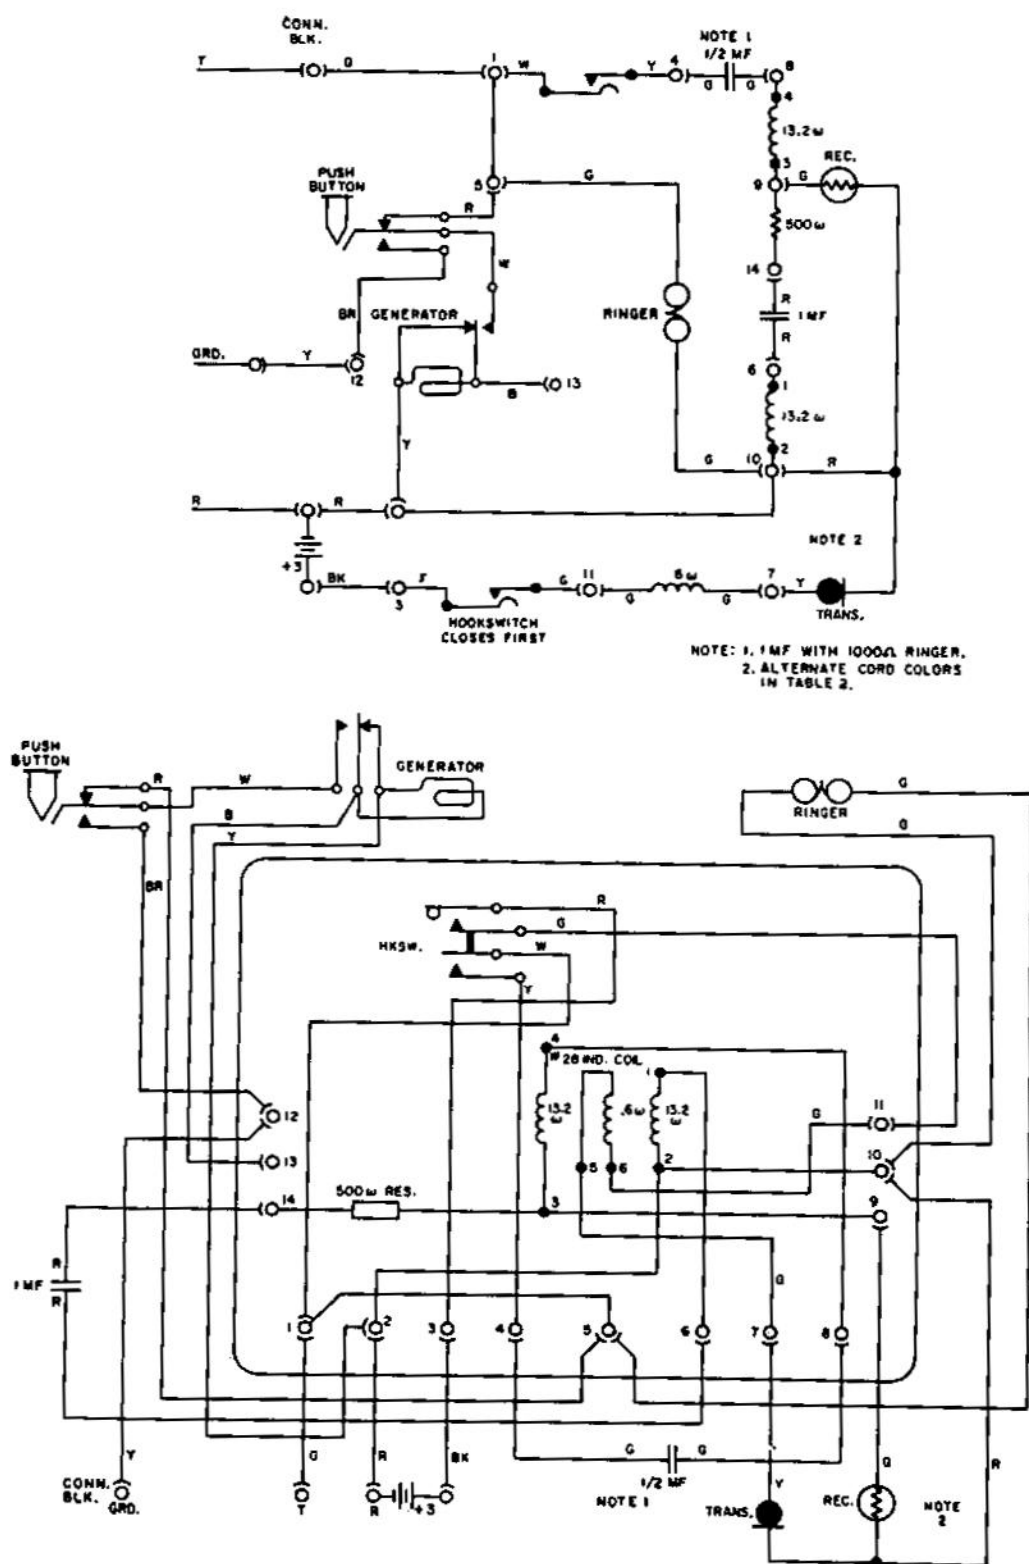
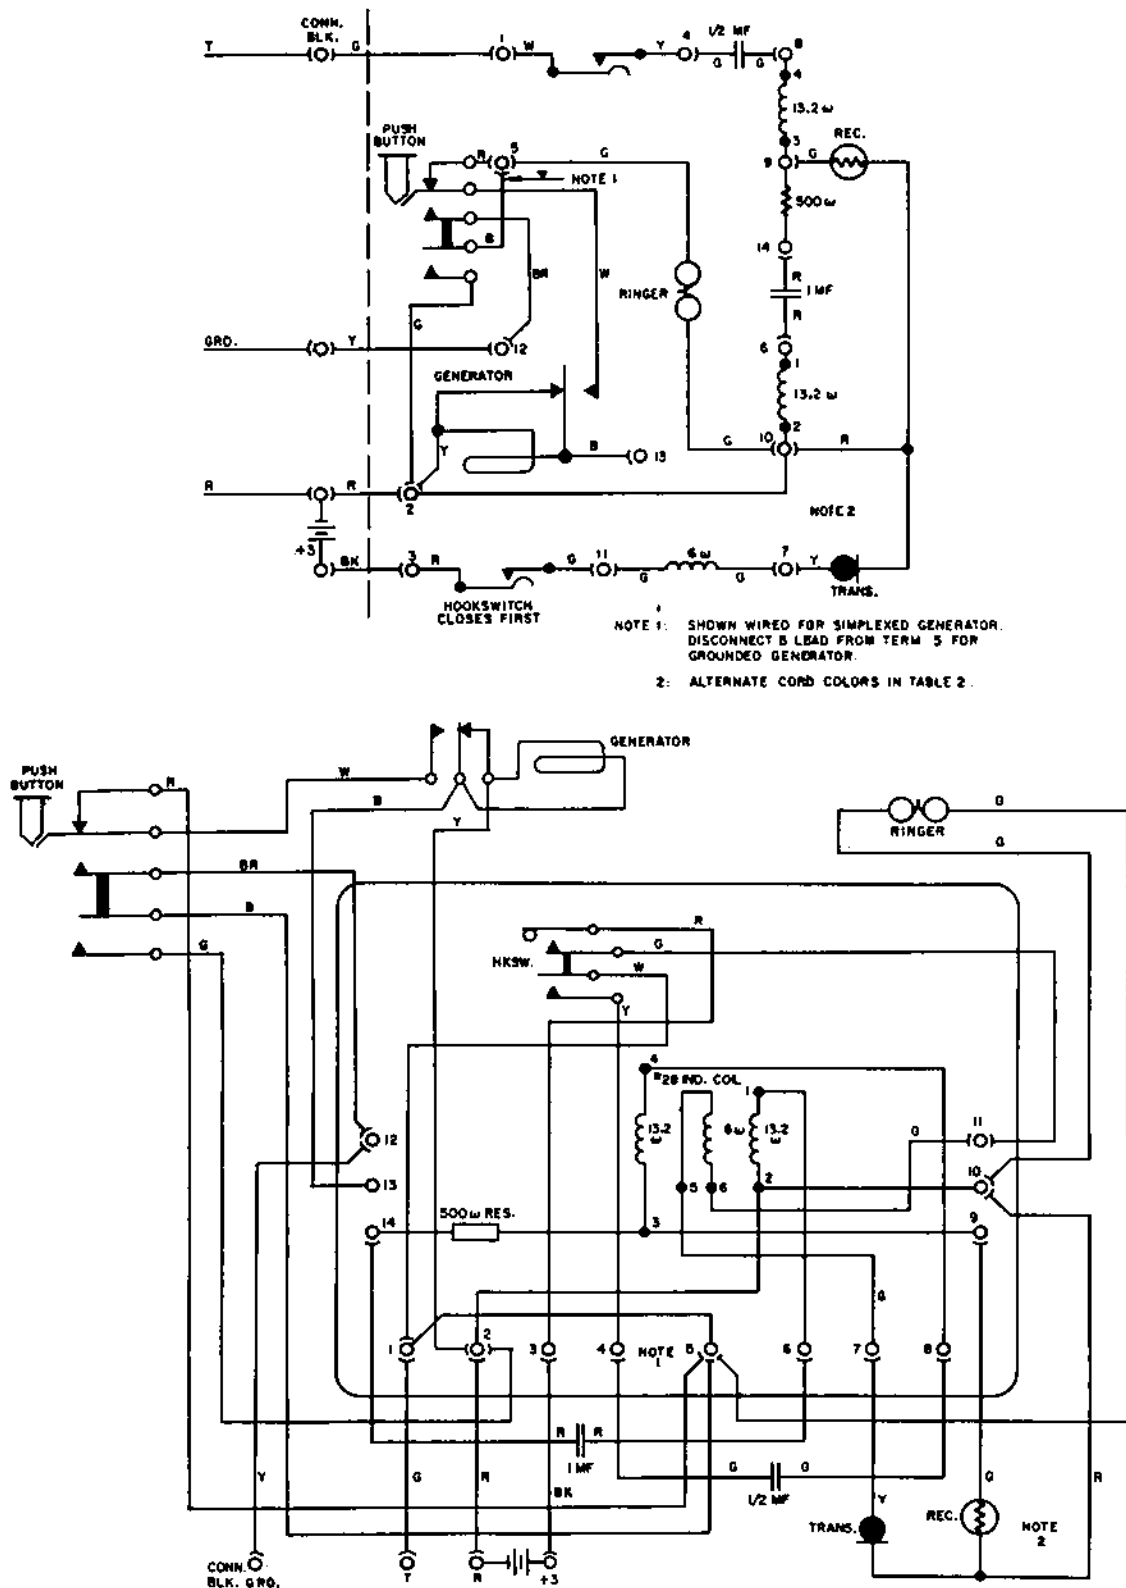

Figure 5. Schematic and Wiring Diagram, Code 901D (NL-12841) Telephone Set.
Figure 9. Schematic and Wiring Diagram, Code 901D (NL-14907) Telephone Set.
3.08 In some exchanges the station ringers are wired for metallic ringing, but the switchboard drops are wired to ground so they do not respond to calls between stations. This application requires Code 901D or 911D telephone sets at the stations (see Figures 5 and 6). To call another party on the line, the customer merely cranks the generator in the usual way. In this case, the ringing potential is applied to the line on the metallic basis, sounding the ringers at all other stations (and at the calling station, unless wired in accordance with the preceding paragraph). The switchboard drop is unaffected by the call. To call the operator from any station on the line, the customer lifts the handset from its cradle and depresses the pushbutton at the left rear of the cradle while cranking. In this case, the ringing potential is applied from line to ground, no ringer sounds at any station, but the switchboard drop is released to signal the operator. The 014907 version of the Code 901D set (see Figure 9) is further arranged to extend the loop range over which this feature is possible by connecting the generator in simplex (from ground to both line conductors simultaneously) when the pushbutton is depressed. If used on a short loop where single-conductor grounded ringing is adequate, the set may be converted to that service by removing the blue pushbutton lead from terminal 5 and taping the spade terminal.